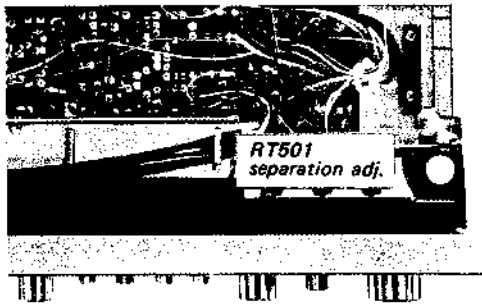

Fig. 3-9. Adjusting parts location
4. The output-level to residual-level ratio represents the separation. Adjust separation control RT501 (see Fig. 3-9) for minimum residual level. Check the right channel for separation. Usually, about an 8 to 9 dB difference in channel separation exists. Readjust RT501 for minimum difference